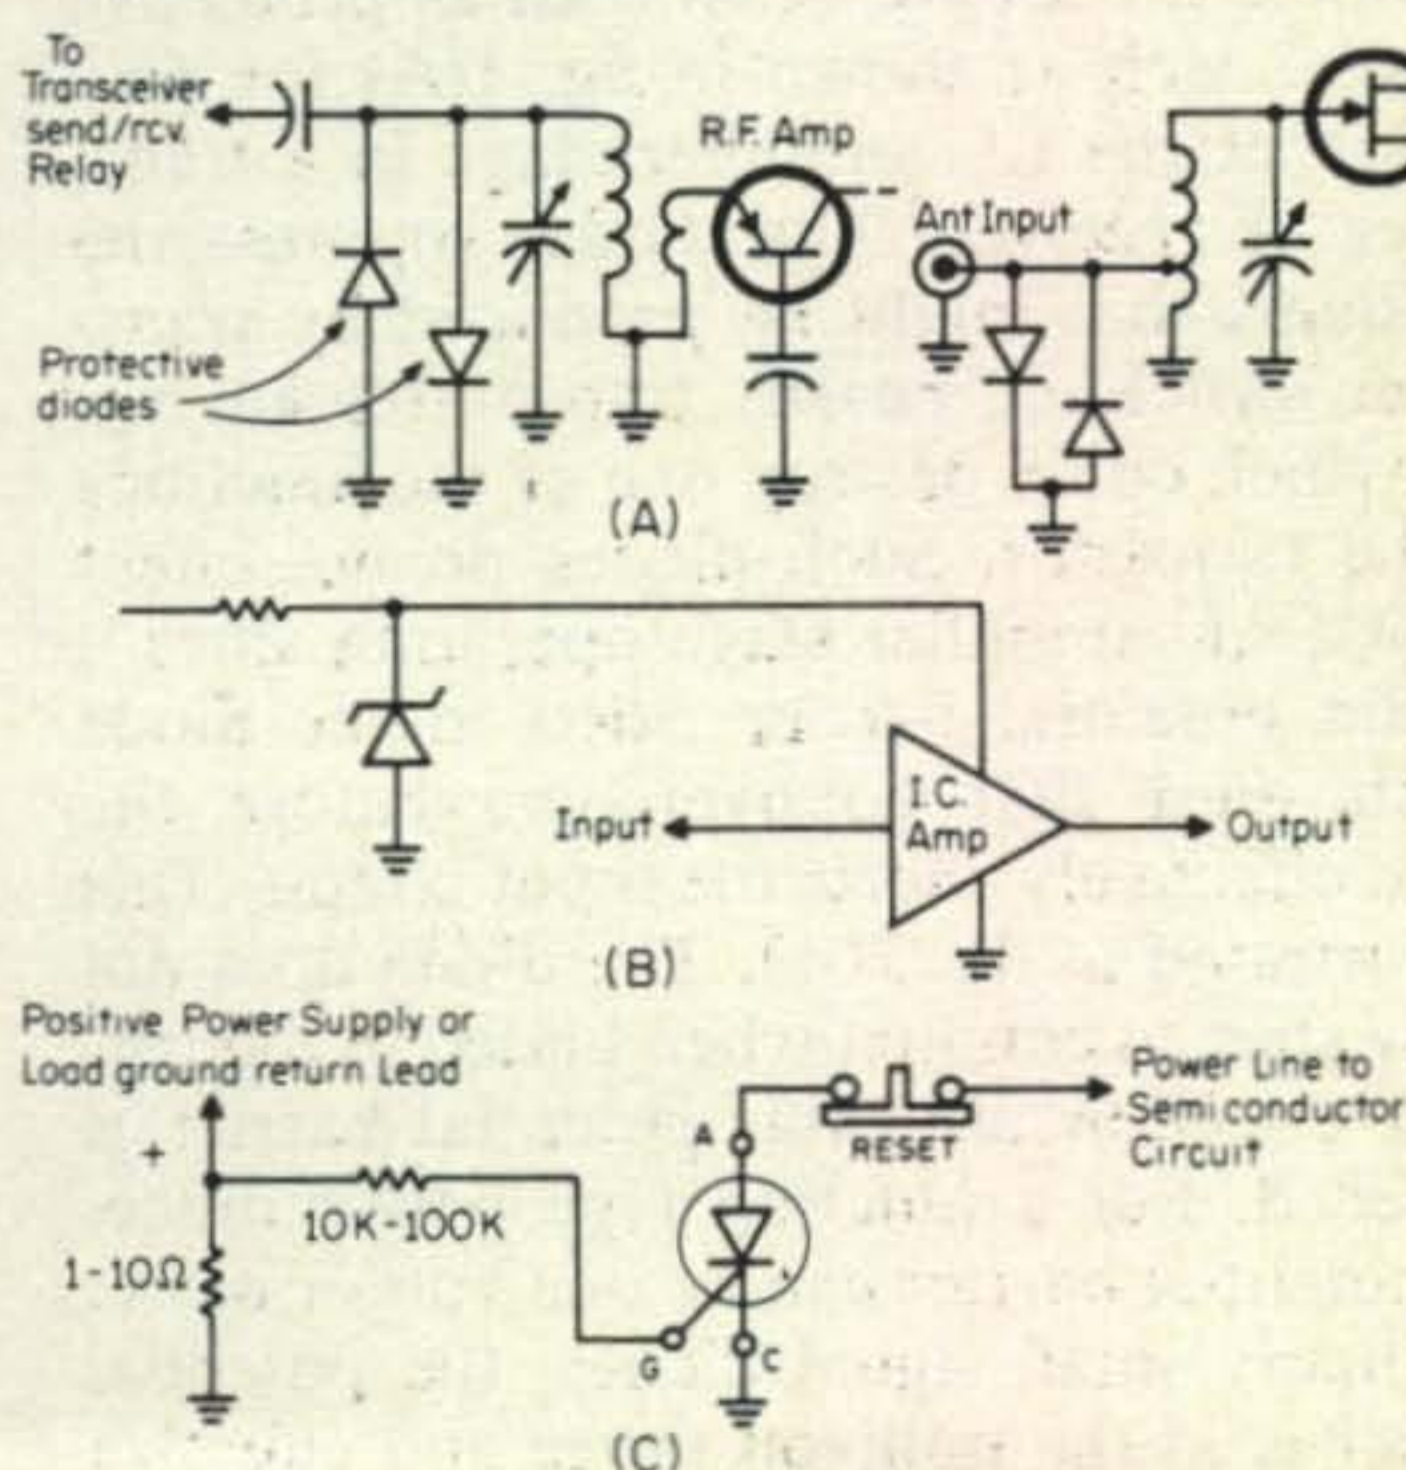

Fig. 1—Various semi-conductor devices used for circuit protection. (A) Small signal diodes, (B) Zener diode and (C) SCR diode.
Simple diodes are often used as protective devices, such as shown in fig. 1(A) for protection of the r.f. amplifier stage in a transmitter or receiver. The diodes suppress the transients that might be produced by transmitter switching, nearby transmitter keying, etc. which could destroy one of the junctions in the transistor. Such diodes do not effect normal r.f. amplifier stage operation since a certain potential barrier exists in the diode which must first be overcome before the diode effectively shorts the input circuit. This is illustrated in fig. 2(A). The diode does not really start to conduct when biased in the forward direction until this potential barrier is exceeded. For a junction type power diode, the potential barrier can be one volt or more. For many small signal diodes, the potential barrier is in the millivolt range and effective diode shunting action will take place before an input level is reached which could be considered destructive. Since the input transients
The zener diode is not usually thought of as a protective device, but rather as a voltage regulating device. Actually, it can perform both functions simultaneously in many applications. Figure 1(B) shows a zener diode used in the supply lead to an IC amplifier. If the zener diode were used solely for voltage regulation purposes, the diode rating and series resistor value would be chosen on the basis of the lowest expected supply voltage, etc. However, if the zener diode is regarded mainly as a protective device, its rating and that of the series resistor can be chosen on a different basis. For example, if the IC required 10 volts at 20 ma for normal operation and a 12 volt (nominal) supply source were used, the series resistor's value used with the zener diode would be based upon the relative current demands of the IC and the minimum current demand of the zener diode used in order to effect a voltage limiting action when the supply voltage exceeds 12 volts. When the supply voltage falls below 12 volts, no voltage regulation action takes place since the IC would not be endangered.
If the IC load just described (10 volts at 20 ma) were placed on a 12 volt source, a series resistor and 10 volt 10 watt zener diode might be used—wired as shown in fig. 1(B). The zener diode being a 10 volt 10 watt unit can handle 1000 ma under full dissipation conditions. If only a 100 ma sustaining current (sufficient for some regulation) were allotted for the zener diode, the total demand on the 12 volt source would be 120 ma. The series resistor must effect a voltage drop of 2 volts at 120 ma or have a value of 16 ohms. Now if a really *drastic* increase in the source voltage were to occur—say to 32 volts from 12 volts, the zener diode would still try to maintain the IC load voltage at 10 volts. This would require a current flow through the 16 ohm resistor of about 1¼ amperes. If such a current could be supplied by the 12 volt source, about 1000 ma would flow through
The circuit of fig. 1(C), for instance, shows an SCR used as a circuit protective device. A resistor is placed in the positive lead in order to produce a voltage proportional to an over-current condition. Very little voltage is required since many SCR's—such as the popular 3N58 unit—require only a gate current voltage of .5 to .8 volt at 50 to 100 μ amp. in